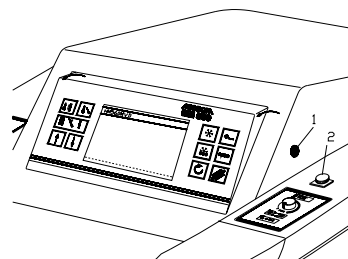

Fig. 36a
- The *hand emergency stop* (fig. 36a.2) is located above the right arm rest.